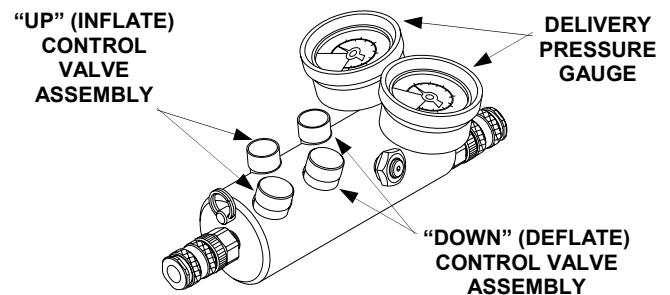

Figure 1-8. Dual "Deadman" Safety Relief and Control Valve
d. The dual "deadman" safety relief and control valve (figure 1-8) is a single input/dual output controller incorporating quick disconnect hose fittings and dual push-button controls to apply and release air pressure to either one or two lift bags. Two gauges are provided to monitor the air pressure applied to either one or two bag(s) and a 118 psi (8.1 Bar) relief valve is incorporated to limit the applied air pressure. Inflation and deflation is accomplished by depressing the associated valve spring loaded push-button.